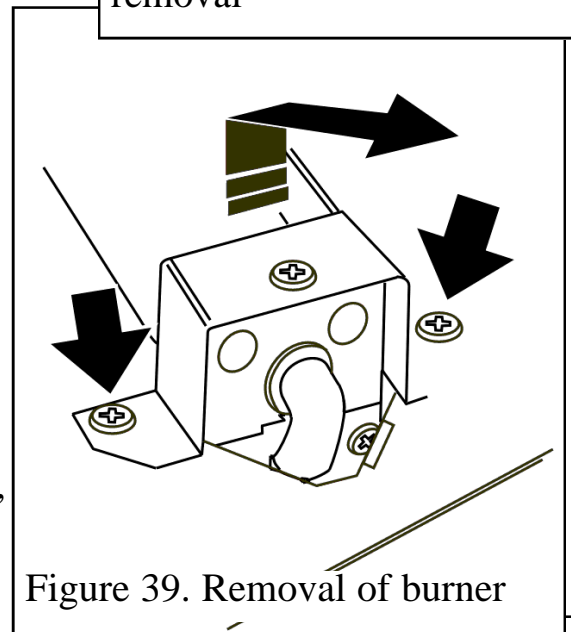

Figure 39. Removal of burner
(See figure 39 & 40).
3. Remove the two screws from the burner clamping plate (See figure 39)